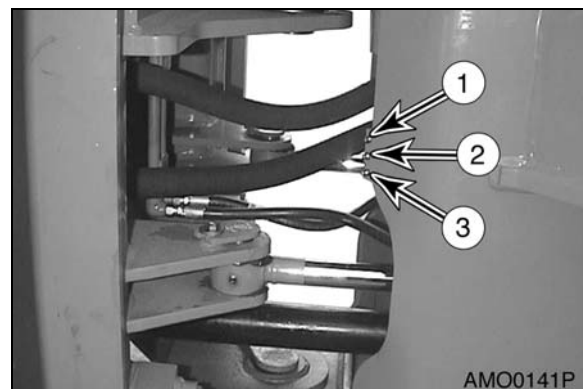

Figure 44
2. Steering cylinder head ends, 2 locations. Use remote grease fittings mounted on frame.(1,2 Figure 44).